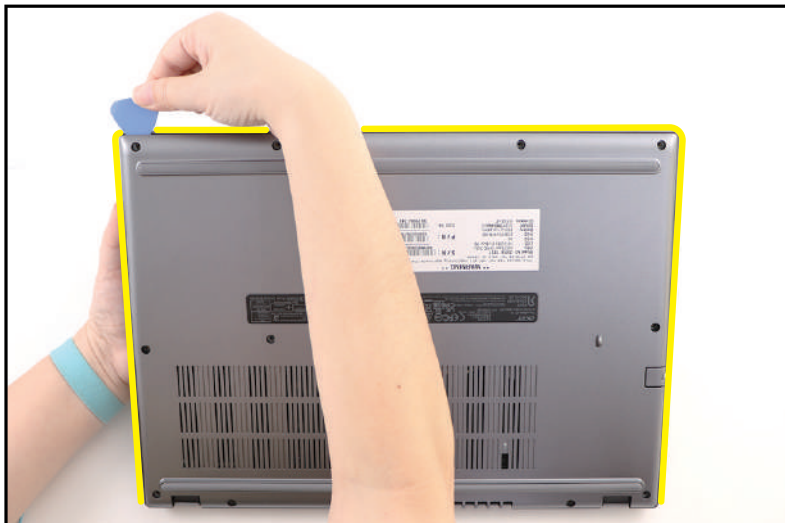

Figure 3-5. Base Cover Removal
2. Carefully pry up the base cover starting from the upper side to release the latches. Then continue to release the remaining latches on the left and right sides (Figure 3-5).